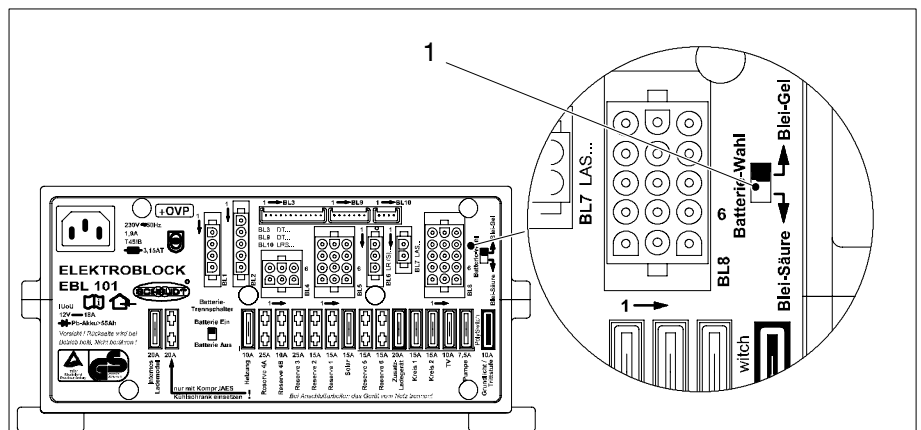

Fig. 1 Battery selector switch
- Ensure that the battery selector switch (Fig. 1, Pos. 1) is set to the correct position for the battery inserted.
- Move the battery selector switch (Fig. 1, Pos. 1) to the correct position using a thin object (such as a ballpoint pen):